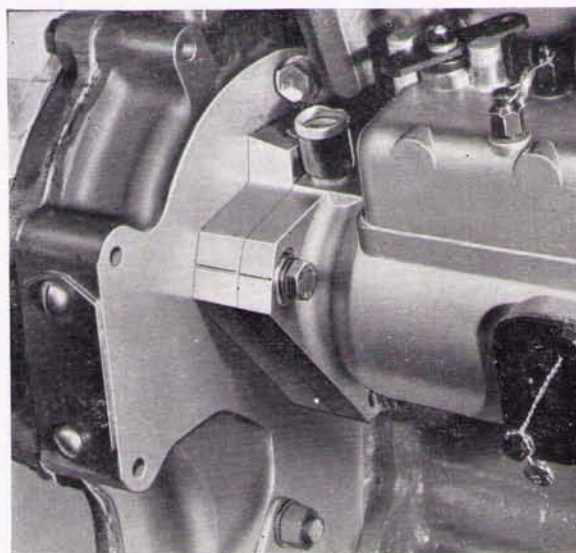

Fig. M.14.
7. Fit the fuel injection pump and quill shaft passing the setscrews through the front of the pump and the carrier plate, so that they locate in the timing case. Line up the timing marks on the fuel pump flange, the carrier flange and the back of the timing case, before tightening the setscrews. (See Fig. M.14).
On the fuel pump mounting flange is a scribed line which, when the fuel pump is fitted, should coincide with the scribed line on the fuel pump carrier plate (see Fig. M.14). A further line is provided on the rear of the timing case. Providing these three scribed lines are in alignment and the fuel pump gear correctly fitted and aligned (see previous remarks), then the fuel pump timing should be correct.
5. See that the fuel pump is correctly fitted with the scribed lines on the mounting flange carrier plate and timing case in-line. (See Fig. M.14).
Ensure that the fuel pump is correctly fitted with the scribed line on the mounting flange coinciding with the scribed line on the fuel pump carrier plate (See Fig. M.14).